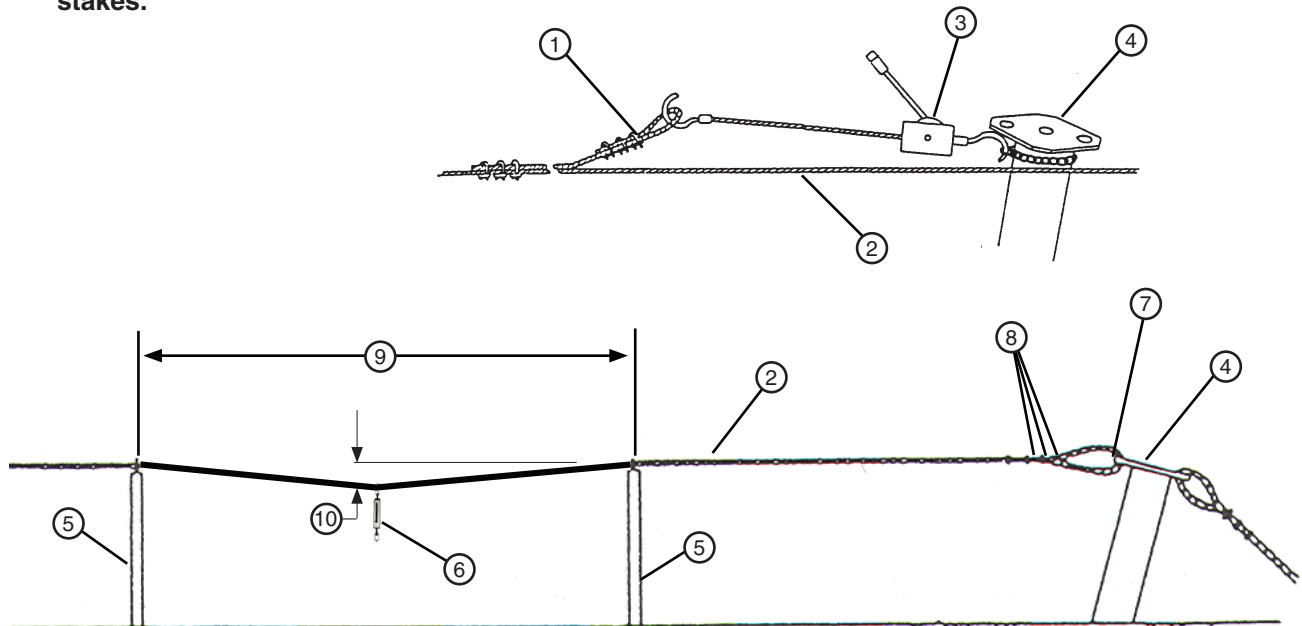

Figure 99-1 1. Pigtail Loop or Smooth Cable Grip
1. Attach a 40 ft to 50 ft pigtail loop or smooth cable grip to the guidance cable. Attach a 2 ton cable puller to the pigtail loop/cable grip and end post. Use the cable puller to apply approximately 2000 lb of tension to the guidance cable. See figure 99-1.
2. Take a static measurement of the guidance cable distance from the ground at the halfway point between support stakes. See figure 99-1.
5. Subtract the deflected measurement from the static measurement. See figure 99-1.
The guidance cable deflection should be no more than 4 in maximum. If the deflection is more than 4 in apply more tension to guidance cable with cable puller and repeat steps 3 through 5. See figure 99-1.
3. Hook a 0 to 50 lb fish scale on guidance cable at the halfway point between support stakes. See figure 99-1.
4. Pull the fish scale toward the ground, hold it at 33 lb of tension and measure the deflected height of cable from the ground at the halfway point between support stakes. See figure 99-1.
6. After setting guidance cable tension, remove slack from guidance cable and attach to the end post with one 3/16 in cable thimble and three 3/16 in cable clamps. Remove cable puller and pigtail. See figure 99-1.